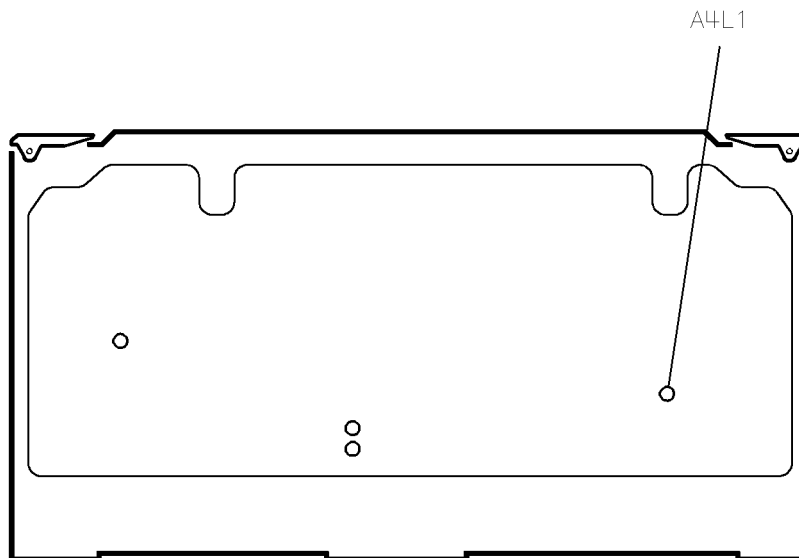

Figure 12-4. A4L1 Location
4. Using a non-metallic tool, adjust A4L1 (see Figure 12-4) to center the needle on the display.